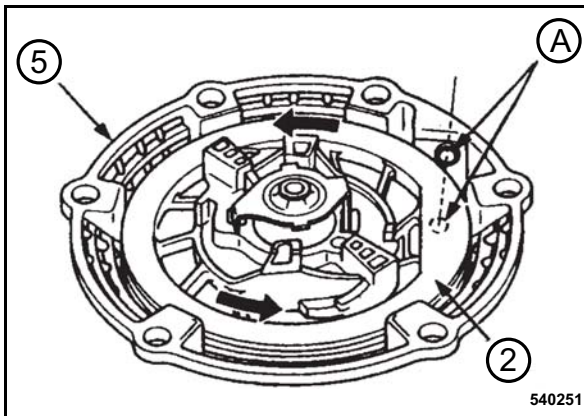

Fig. 68
- Before assembling the rope turn the coil (2) (Fig. 68) 5 revolutions in anti-clockwise direction and align the rope openings on coil and housing (5) to match (A).